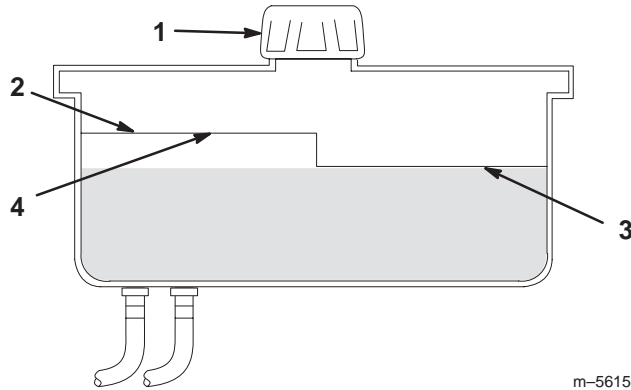

Figure 50
2. Clean area around filler neck of hydraulic tank (Fig. 50).
3. Remove cap from filler neck. Look inside to check if there is fluid in the reservoir. (Fig. 50).
Note: The fluid level should be to the top of the *hot* level of the baffle, when the fluid is warm (Fig. 50).